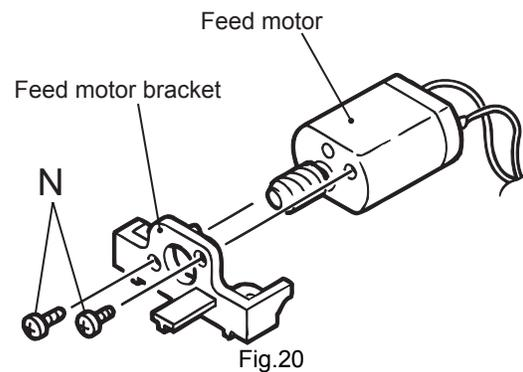
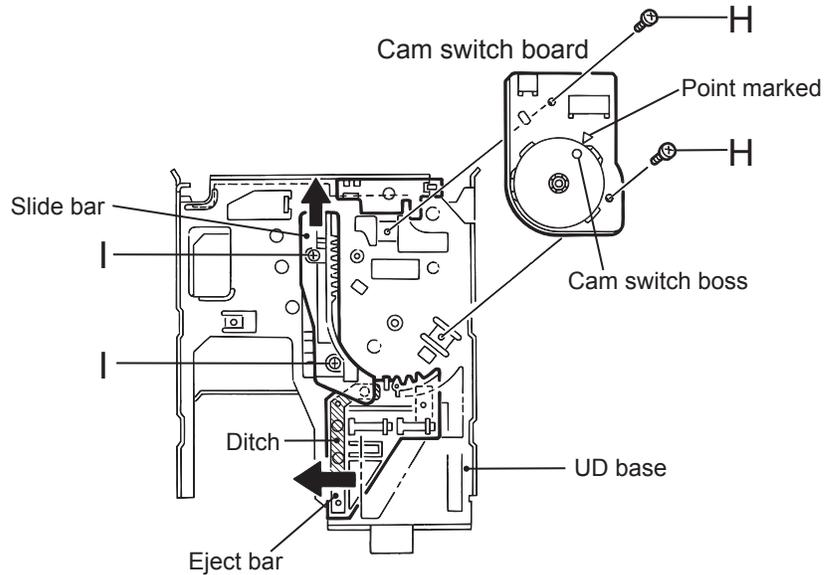

Fig.20
Fig.21
- (2) Reattach the slide bar to the loading mechanism chassis while fitting the boss marked k to the eject bar slot. (Fig.21)
- (3) Slide the slide bar and the eject bar in the direction of the arrow in Fig.20 and reattach the cartridge holder assembly using the two screws I. (Fig.21 and 22)